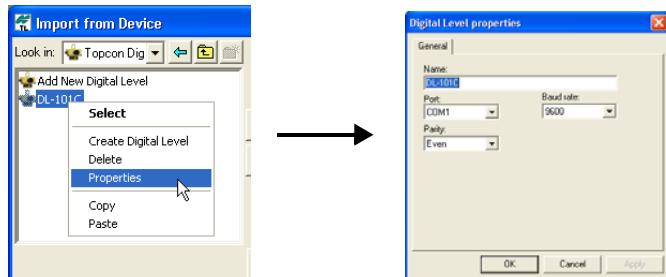

Figure 2-36. Changing the Digital Level Properties
5. A new icon for the Digital Level displays (Figure 2-36 on page 2-21) in the *Import from Device* dialog box. To change the properties (communication parameters, name, model, and so on) for this Digital Level, right-click on the icon and select *Properties* on the pop-up menu. The *Digital Level Properties* dialog box for the Digital Level is identical to the *Create Digital Level* dialog box for the new Digital Level.